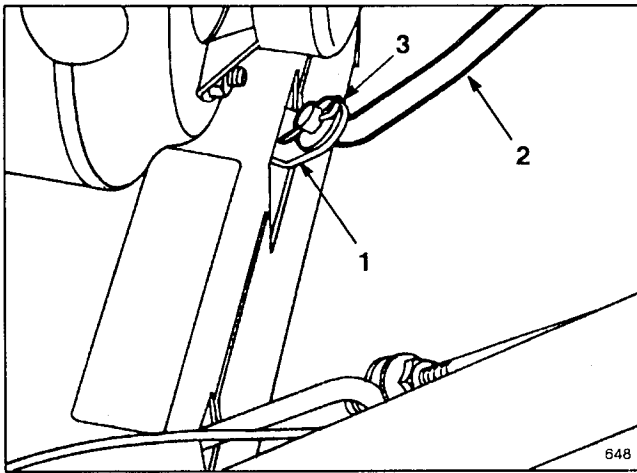
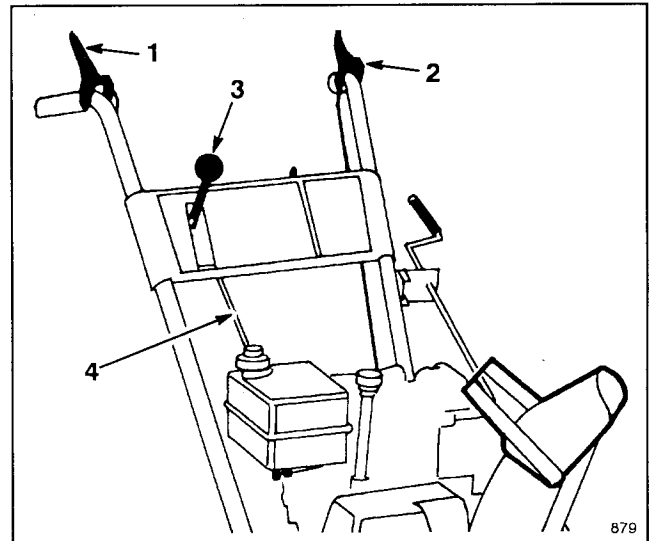

Figure 4
Figure 6
1. Pull speed selector arm (Fig. 4) to the fully "out" position and move speed selector (Fig. 6) on control panel to the R (REVERSE) position to ease assembly.
2. Install speed selector rod into selector arm, add one flat washer on the selector rod and secure with cotter pin (Fig. 4).
4. Adjust the two flange nuts up or down on the traction control rod until the distance between the top of the handgrip and the bottom of the traction control lever (Figs. 6 and 7) is approximately  $4\frac{3}{8}$  inches. **This is a preliminary setting only.** Tighten the two flange nuts finger tight.
5. Move speed selector (Fig. 6) into third gear.
3. Check the distance between the top of the handgrip and the bottom of the auger control lever (Fig. 6 & 9). Distance should be approximately four inches. **This is a preliminary setting only.**